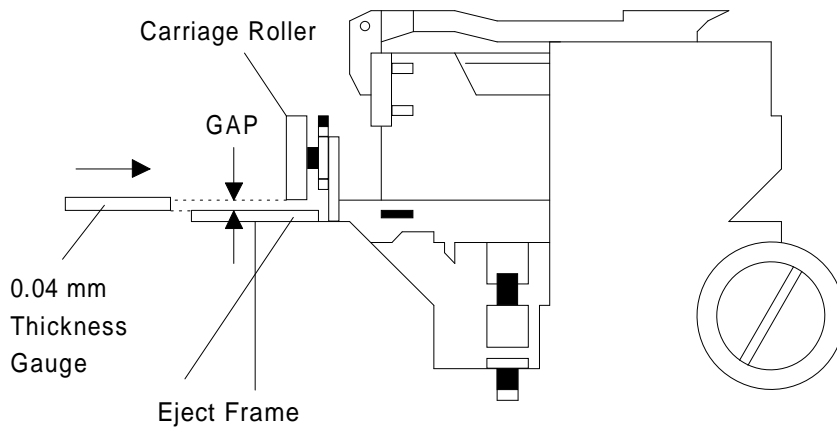

Figure 4-18. Confirming the Gap
4. After attaching the printheads to the gauge surface, verify that the gap between the carriage roller and the front frame is less than 0.04 mm. (See Figure 4-18.)